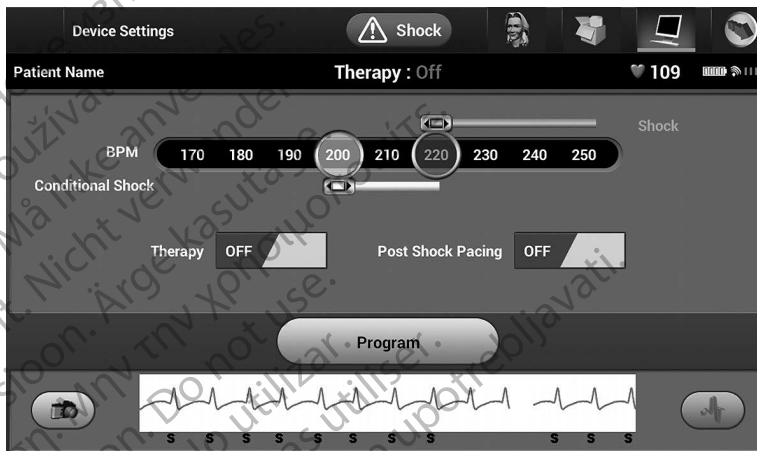

Figure 14: Device Settings screen
3. Select the Device Settings icon on the Navigation Bar to display the Device Settings screen (Figure 14).